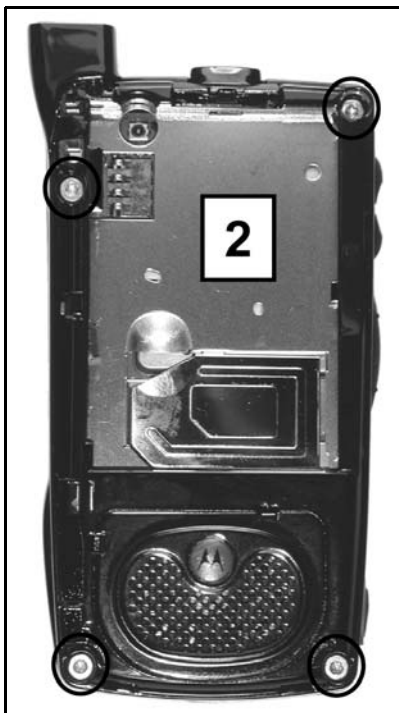

Figure 7-7.
2. Remove four T-6 screws—one in the metal tube channel (see Figure 7-7).